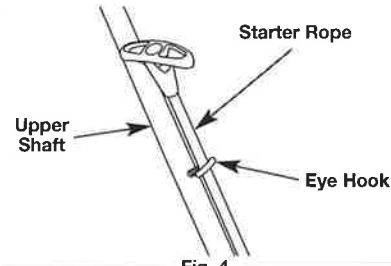

Fig. 4
- Pull out the starter rope and run it through the eye hook (Fig. 4).